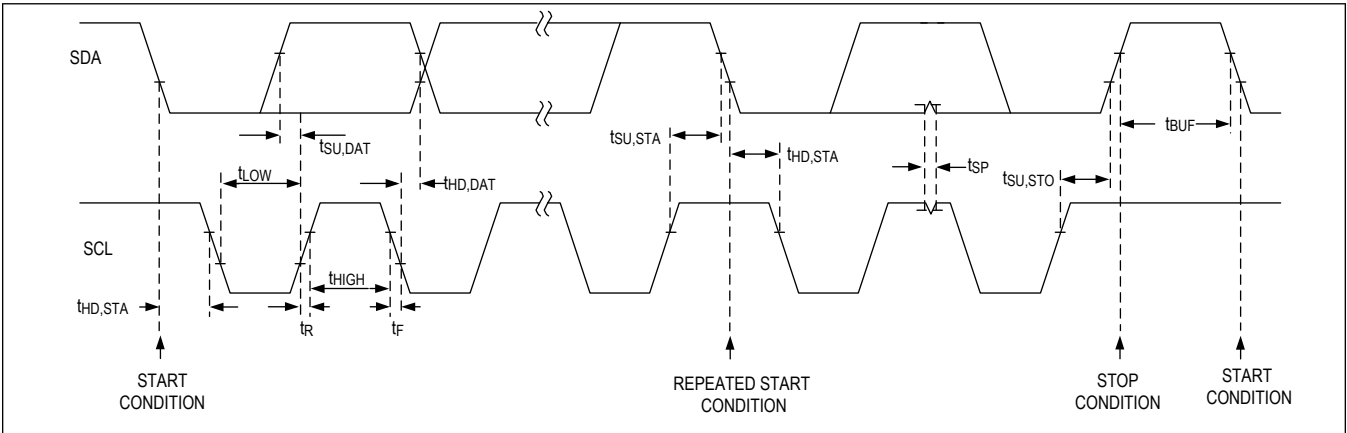

Figure 31. I²C Interface Timing Diagram
The IC features an I²C/SMBus-compatible, 2-wire serial interface consisting of a serial data line (SDA) and a serial clock line (SCL). SDA and SCL facilitate communication between the IC and the controller at clock rates up to 1MHz. Figure 31 shows the 2-wire interface timing diagram. The controller generates SCL and initiates a data transfer on the bus. The controller device writes data to the IC by transmitting the proper peripheral address followed by two register address bytes (the most significant byte first) and then the data word. Each transmit sequence is framed by a START (S) or REPEATED START (Sr) condition and a STOP (P) condition. Each word transmitted to the IC is 8 bits long and is followed by an acknowledge clock pulse. A controller reading data from the IC transmits the proper peripheral address followed by a series of nine SCL pulses. The IC transmits data on SDA in sync with the controller-generated SCL pulses. The controller acknowledges receipt of each byte of data. Each read sequence is framed by a START (S) or REPEATED START (Sr) condition, a not acknowledge, and a STOP (P) condition. SDA operates as both an input and an open-drain output. A pullup resistor, typically greater than 500Ω, is required on SDA. SCL operates only as an input. A pullup resistor, typically greater than 500Ω, is required on SCL if there are multiple controllers on the bus, or if the single controller has an open-drain SCL output. Series resistors in line with SDA and SCL are optional. Series resistors protect the digital inputs of the IC from high voltage spikes on the bus lines, and minimize crosstalk and undershoot of the bus signals.